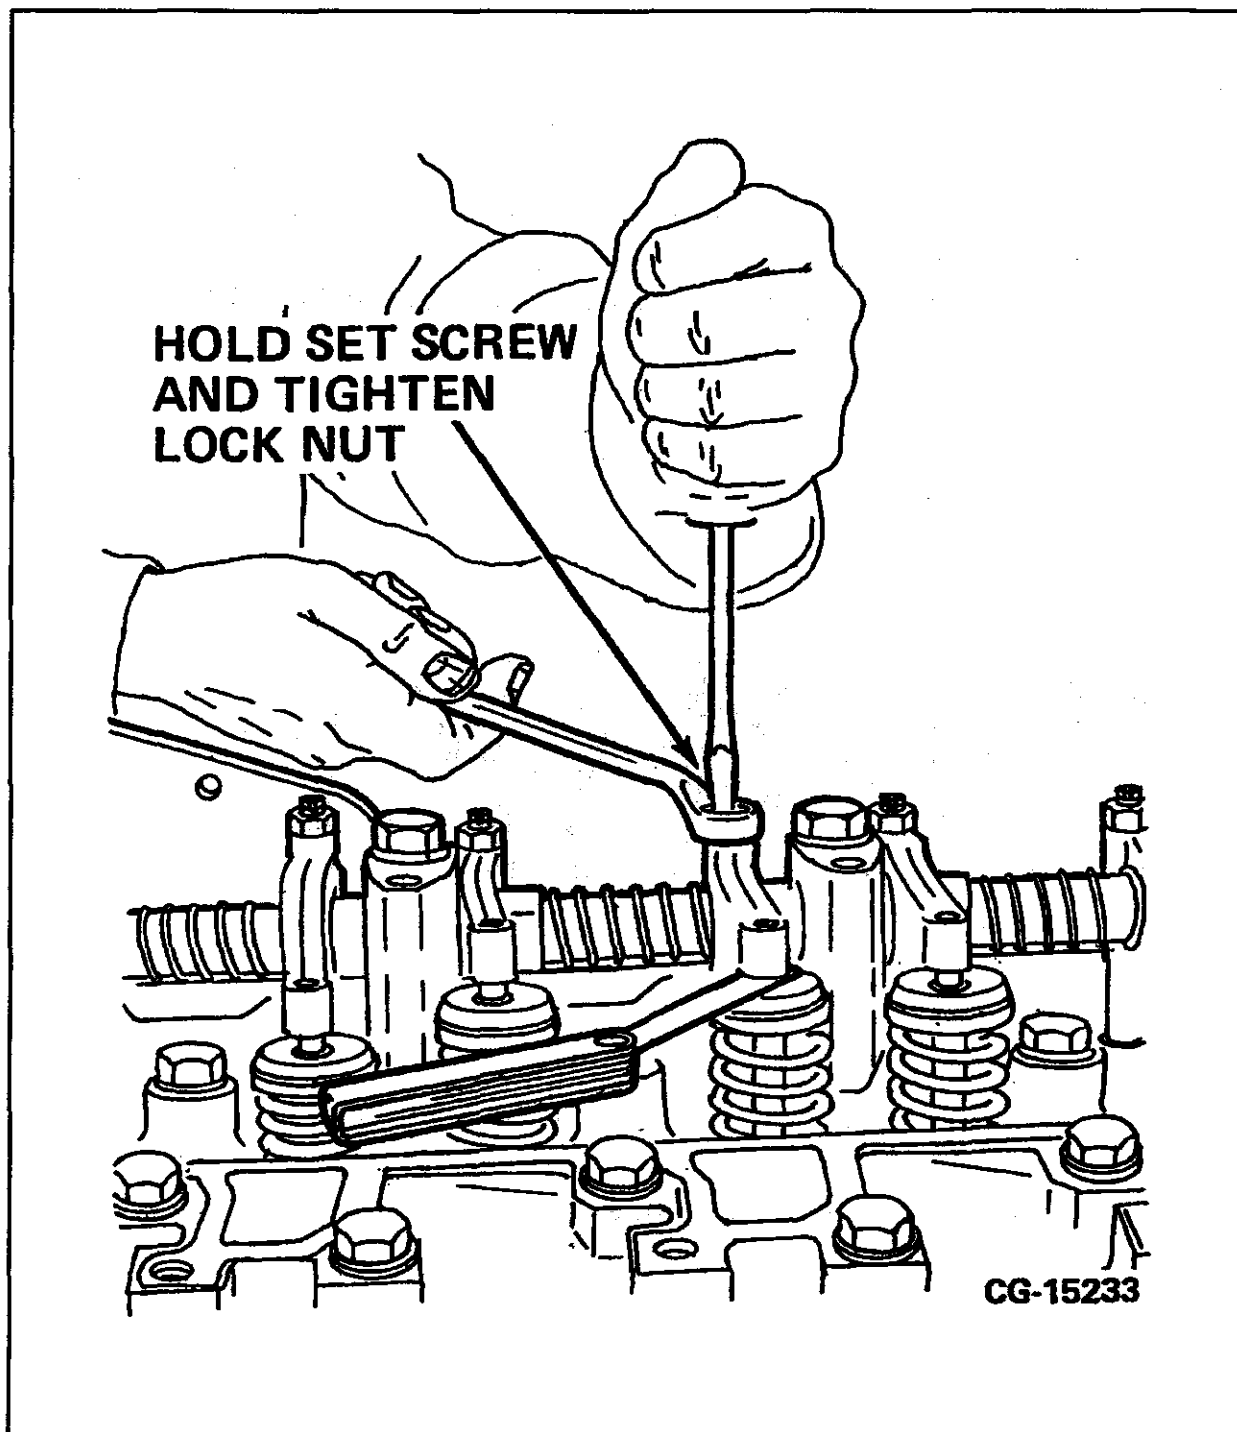

FIGURE 19-46 Tighten Valve Adjustment Screw Locknut
4. Tighten the locknut once the valve adjustment is set. Remove the feeler gauge. Refer to **FIGURE 19-46**.